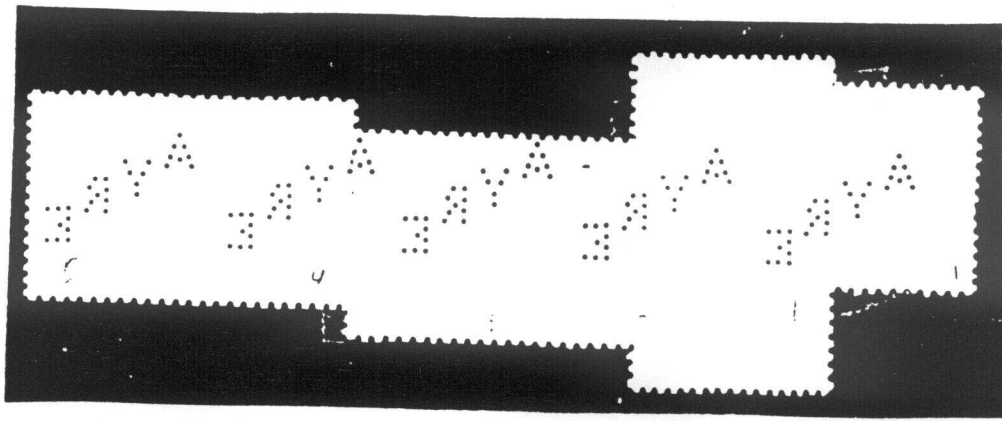

Fig. 1
1) The A9 perforator is almost certainly a 5 die machine as seen in Fig. 1. The only thing lacking to complete the setting is the tie in between the third and fourth dies.